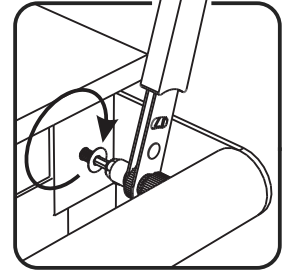

Figure 4
Attach Bar (J) to unit with Flat Short Bolts (9). (See Figure 4)